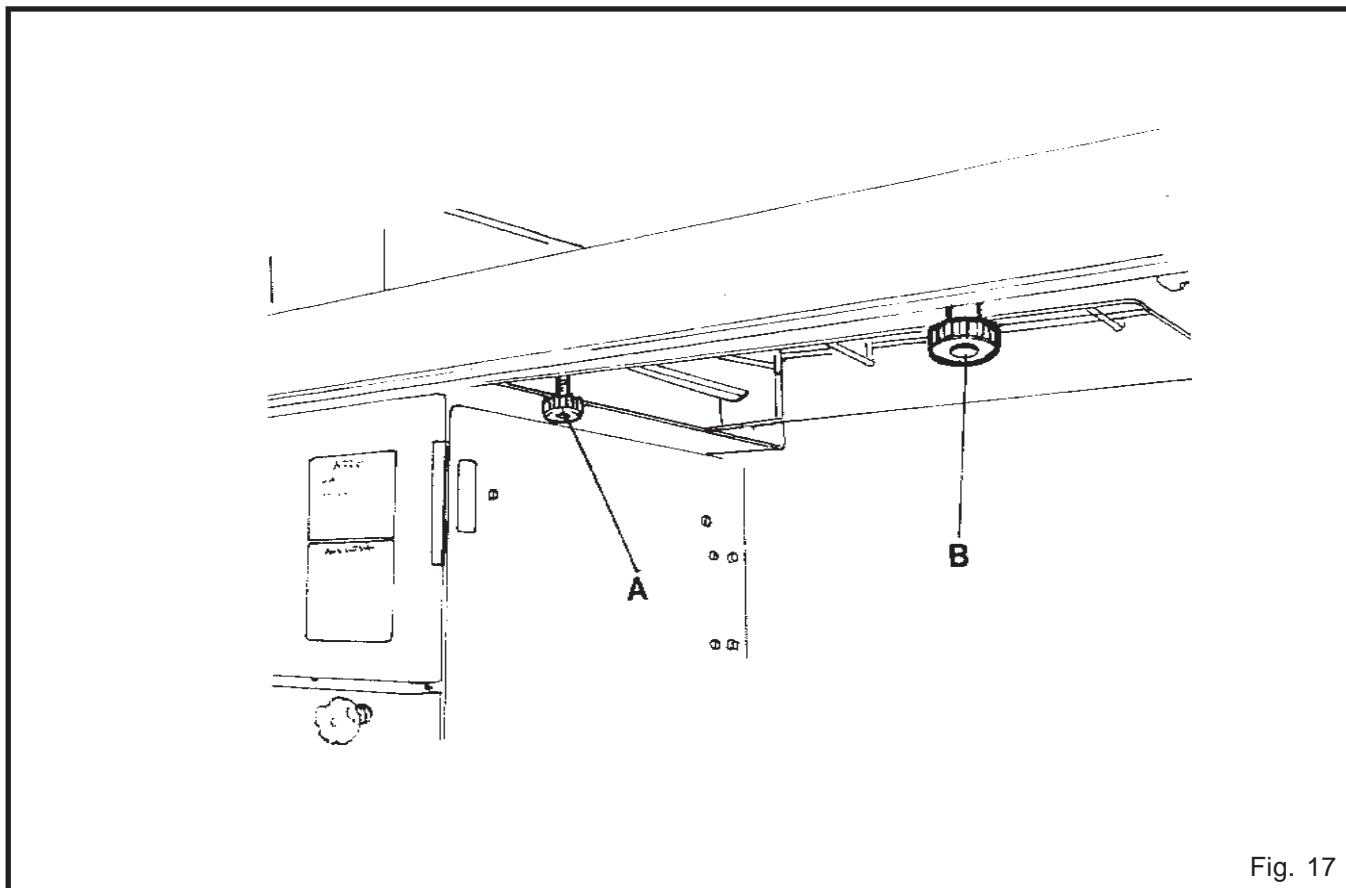

Fig. 17
3.8 - PIANO ESTENSIBILE F114-115L- TL fig.17.
3.8 - EXTENDABLE TABLE (F114-115L-TL, fig. 17)
3.8 - MESA EXTENSIBLE F114-115L-TL fig. 17